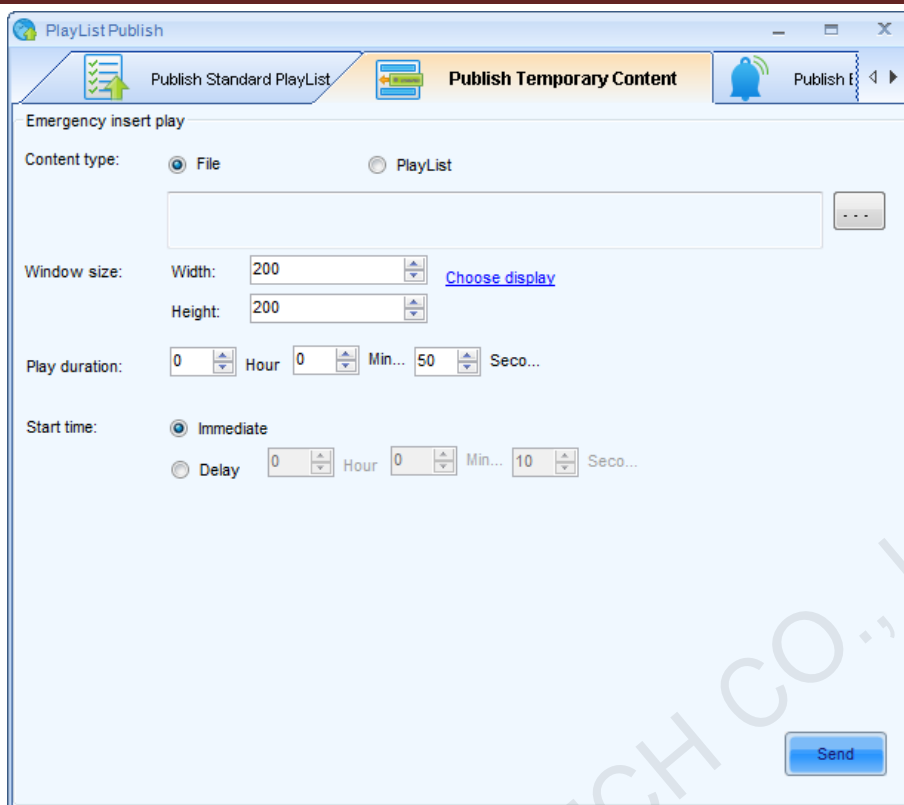

Fig. 10-71 Publish Temporary Content page
- 2) After inserting media files, click **OK** to return to the emergency insert play page as shown in Fig. 10-71. Click **Choose Display** to read the display size of client who need the insert play. Select insert start time and duration;
Select PlayList in Fig.10-71 Emergency insert play page, and click  to insert PlayList. The following steps are same to those of insert files.